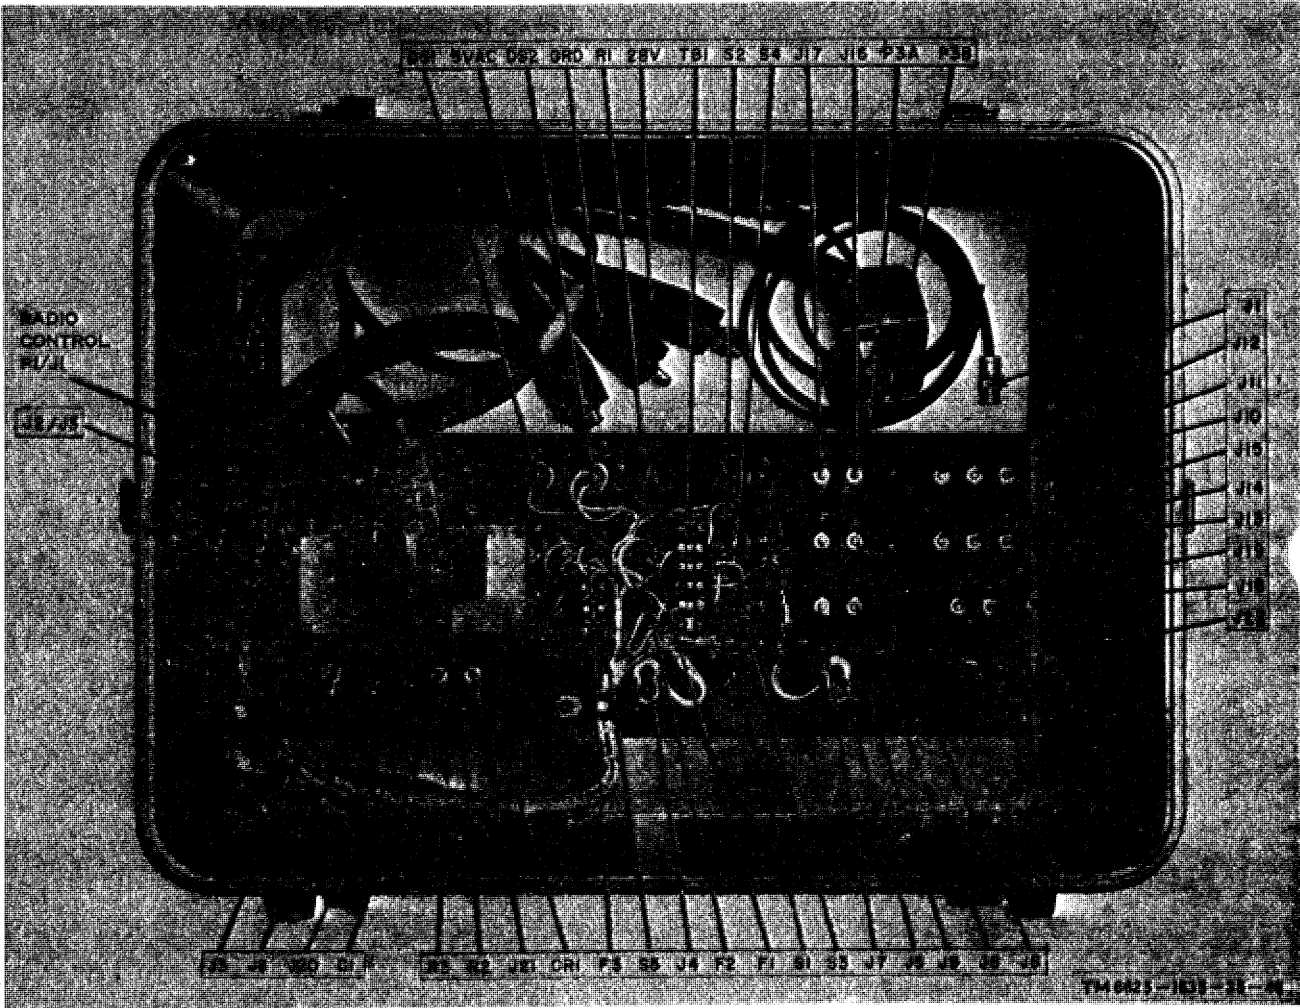

Figure 2-1. Test panel (unmodified), rear view.
(3) *Troubleshooting.* The trouble symptoms listed in *c* below will aid in localizing the trouble to a part or circuit. For physical location of parts, refer to figures 2-1, 2-1.1, 2-2, and 2-3.